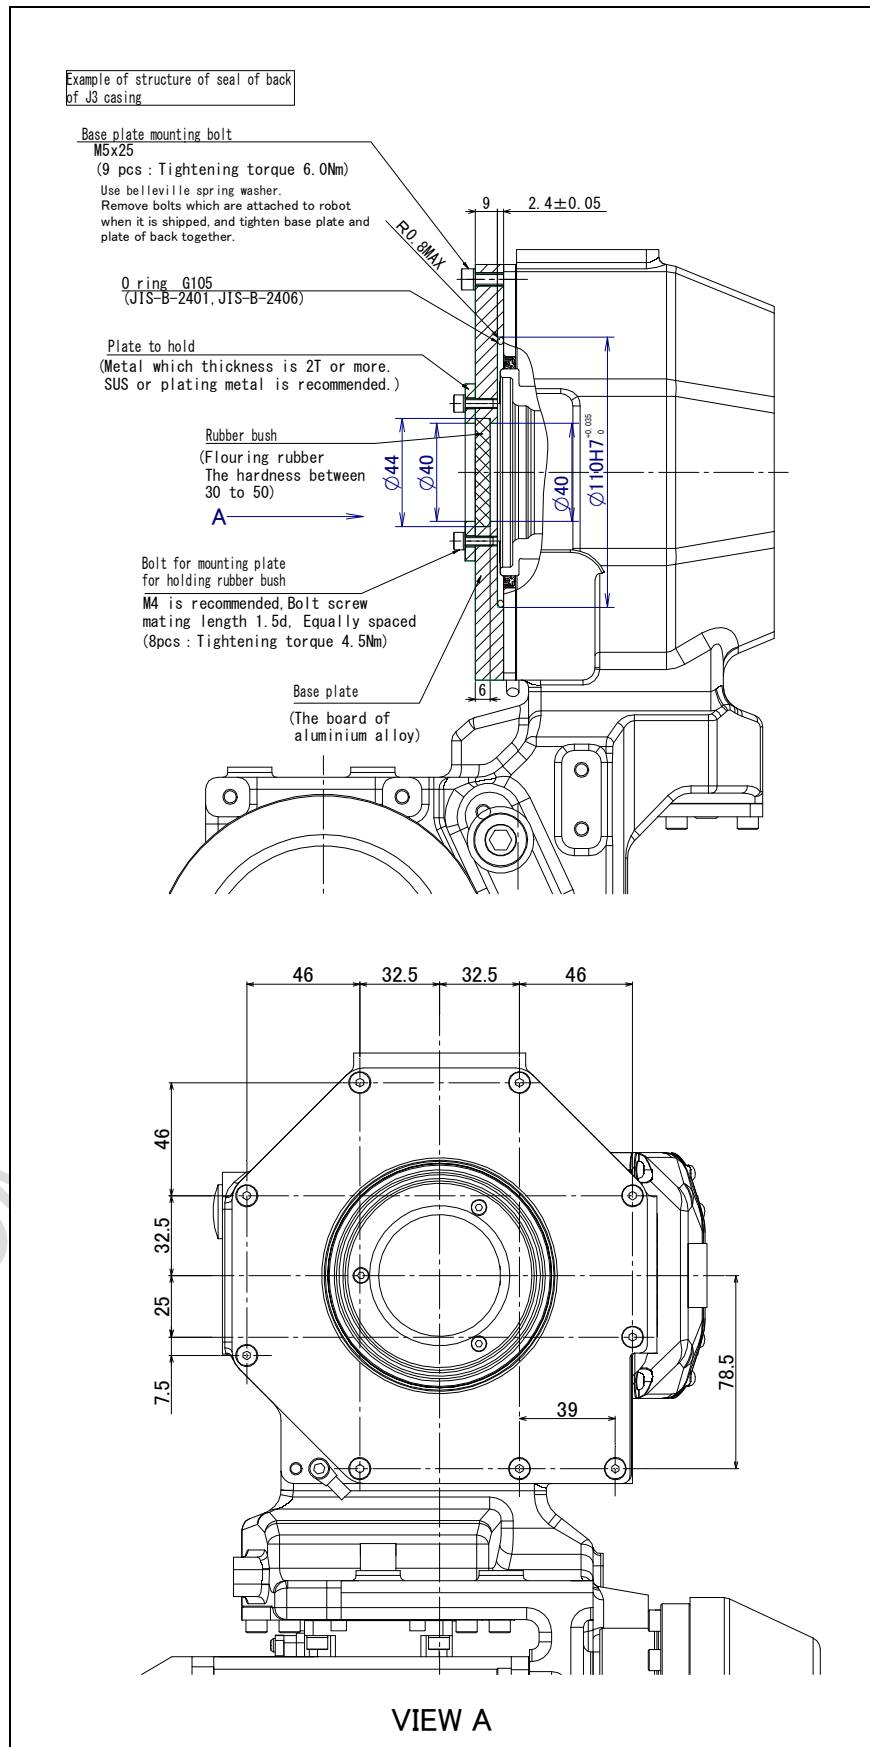

Fig. 6.20 (d) Structure of seal of back of J3 casing
- 8 Refer to Fig. 6.20 (e) about structure of seal of wrist.